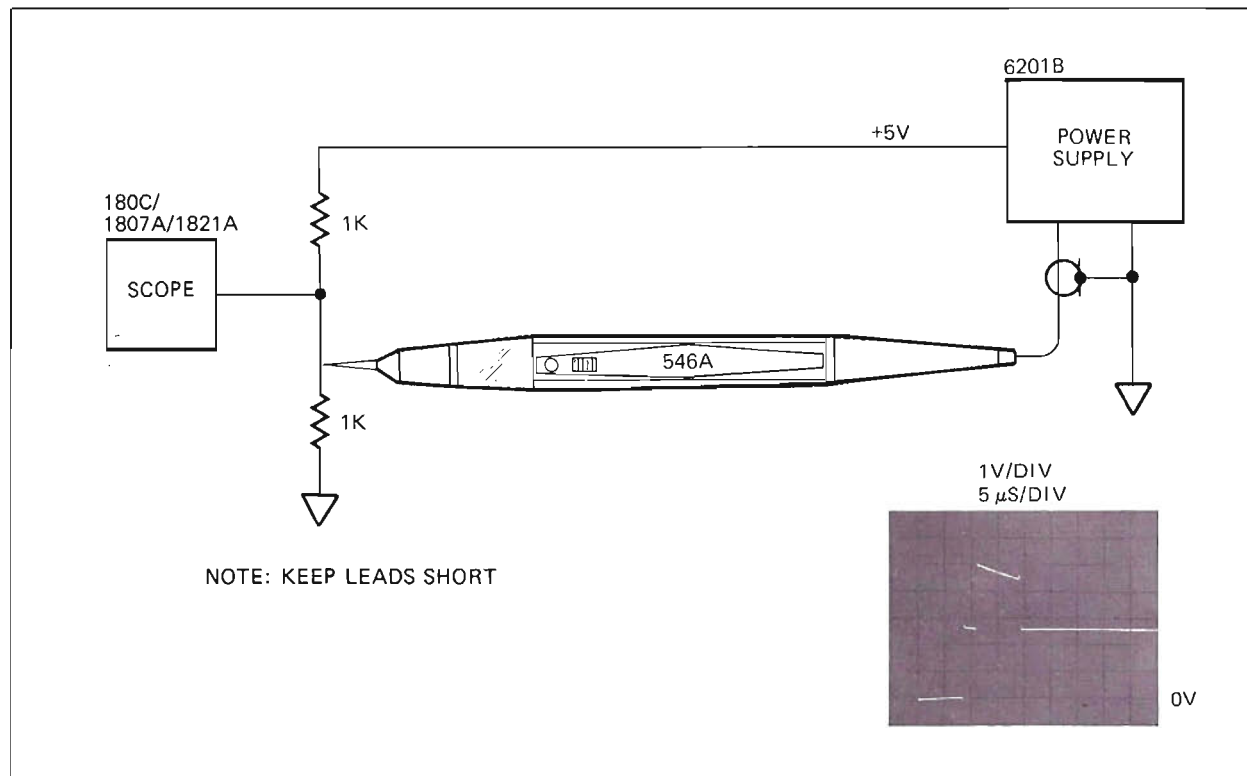

Figure 10. Functional Output Test
Using the test setup shown in *Figure 10*, proceed as follows:
- b. Press Pulser pushbutton and latch (100 Hz mode) while observing oscilloscope for the waveform shown in *Figure 10*.